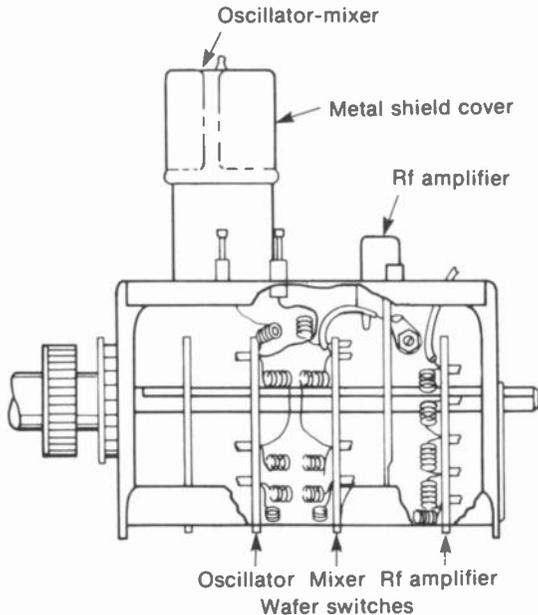

FIGURE 24-5 ROTARY-SWITCH TUNER WITH WAFER SWITCHES FOR EACH STAGE.
**Rotary-switch tuner.** See Fig. 24-5. This VHF tuner has rotary wafer switches for each stage. The oscillator section is at the front. Each wafer has contacts for 12 VHF channels plus the channel 1 position for UHF operation. All the wafers are ganged on one common shaft.